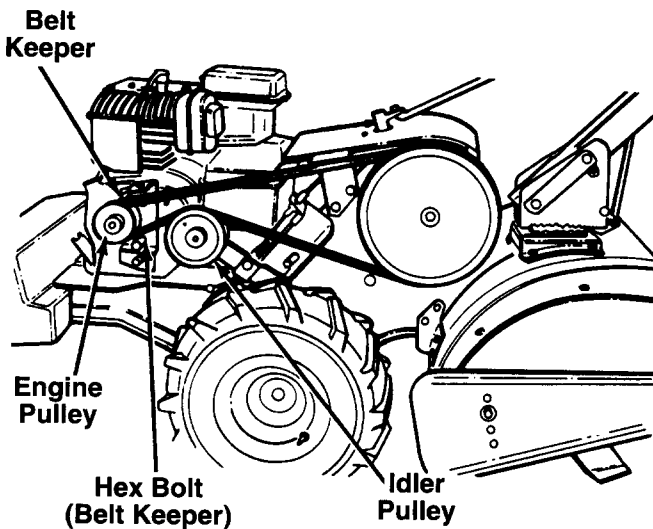

FIGURE 18.
3. Remove the hex bolt (belt keeper) located beneath the engine pulley. See figure 18.
NOTE: Upon reassembly, make certain the belt is routed over the idler pulley and inside of belt keepers by engine pulley. See figure 18.